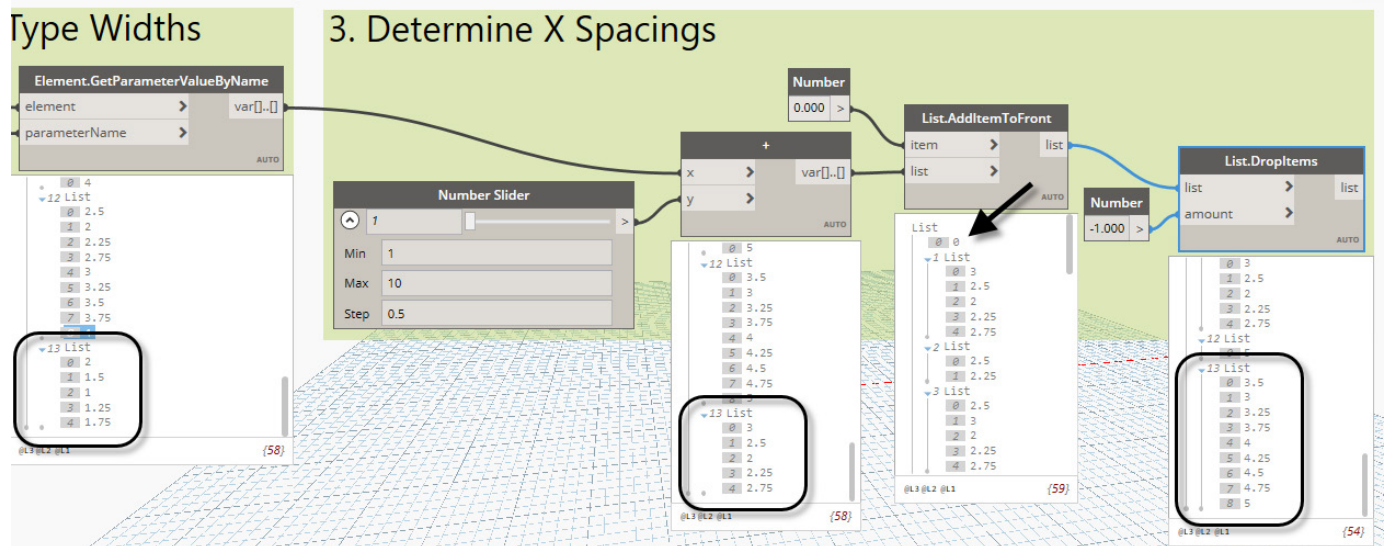

Figure 52
23. Wire and group the nodes as indicated in Figure 52.